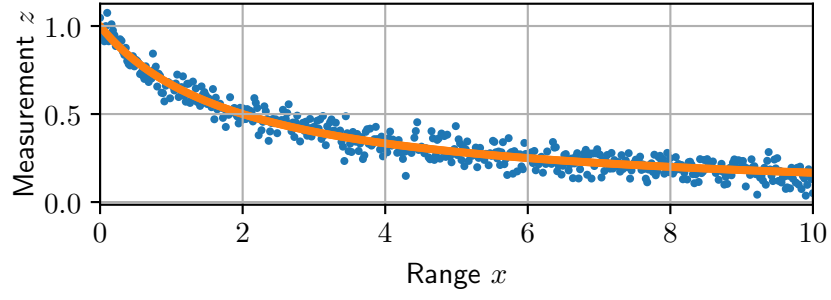

Figure 1: Non-linear sensor calibration data.
4. Fit a parametric model to the data for each sensor using parametric identification given measured pairs of data (x_n, z_n) , see Figure 1. Let's say your model is: